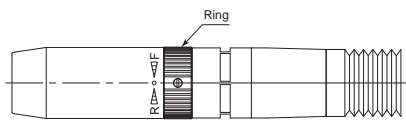

Fig. 5
- Motor will be rotated by turning the Ring Switch of Air Motor toward (" F : FWD." or " R : REV.") in Fig.5 and stepping on Foot Control.